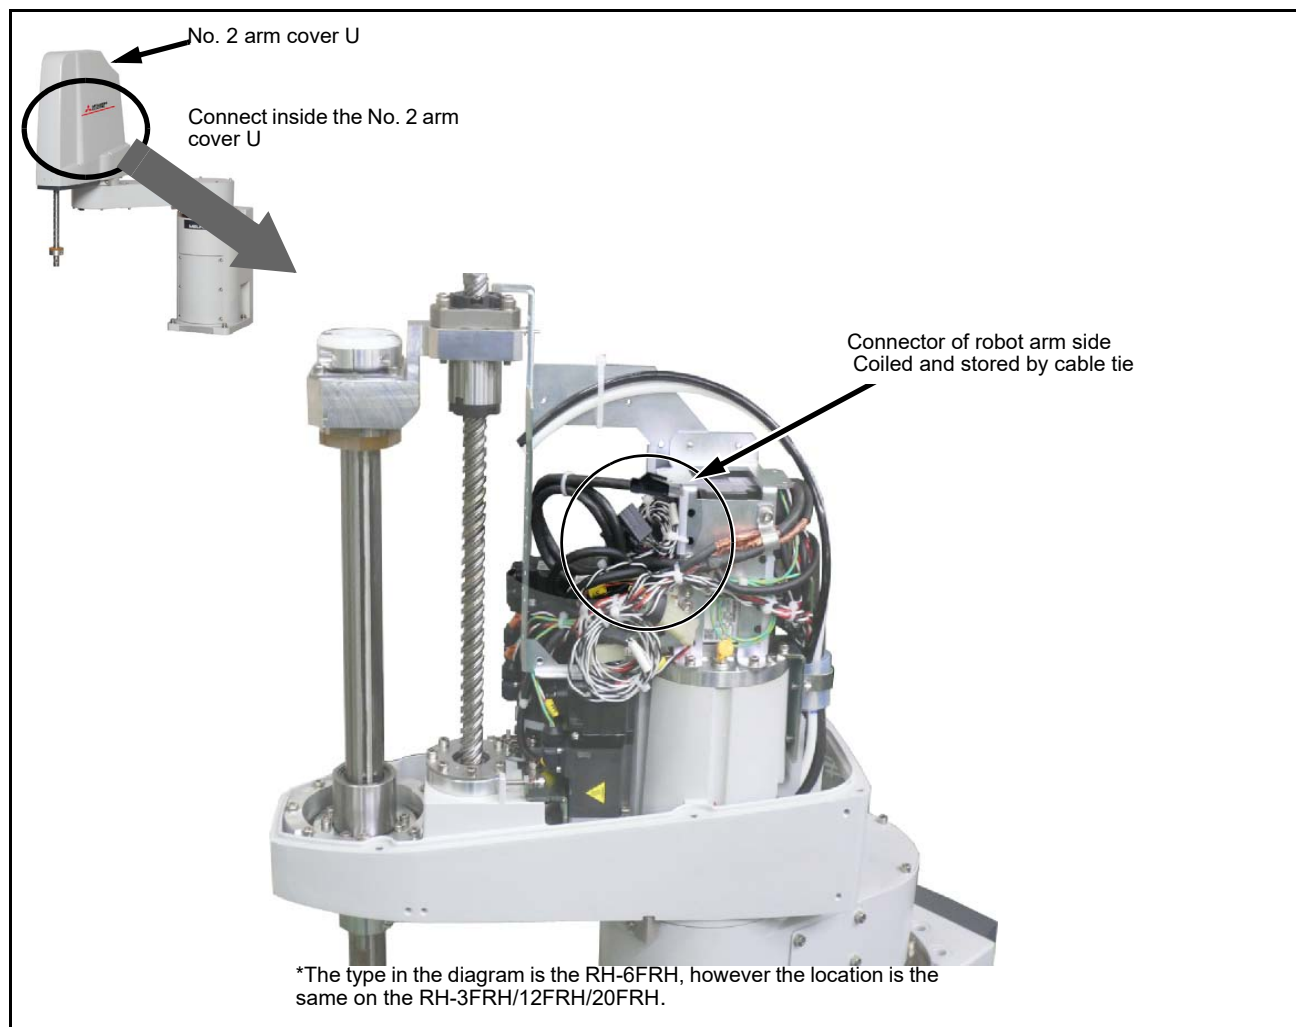

Fig.3-13 : Installing the hand output cable (RH-3FRH/6FRH/12FRH/20FRH series)
Fig. 3-13 shows the hand output cable's storage location on the robot.
- 2) The hand output cable is stored in the location shown in Fig. 3-13. Pull out and check the connectors (GR1, GR2).